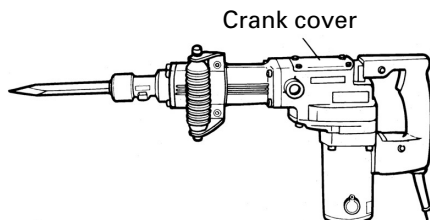

Fig. 5
- (1) Remove the crank cover and wipe off the grease inside. (Fig. 5)
- (2) Apply 1.1 oz (30 g) of HITACHI Electric Hammer Grease A (optional accessory, contained in tube) to the crank case.
- (3) After replenishing the grease, install the crank cover securely.